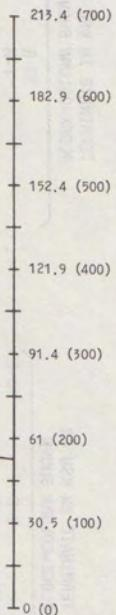

Fig. 20—Satellite Nomograph
determined. The three required values are plotted on scales A, B, and E, respectively, on Fig. 20. The number of additional leads required per L and LG lead will be found on scale D. Scales C1 and C2 are used only to establish reference points.
3.21 To illustrate the use of the nomograph, assume a satellite location is 400 feet from the KSU, eight stations are to be fed from the satellite, and the farthest station is 175 feet from the satellite. These figures are used as an example shown on Fig. 20 and are shown as dotted lines.